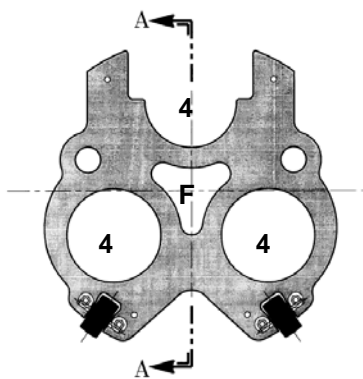

Figure 1. 3-4" Conduits
- A. Figure 1 Bore Spacer, **1.116"** maximum float.